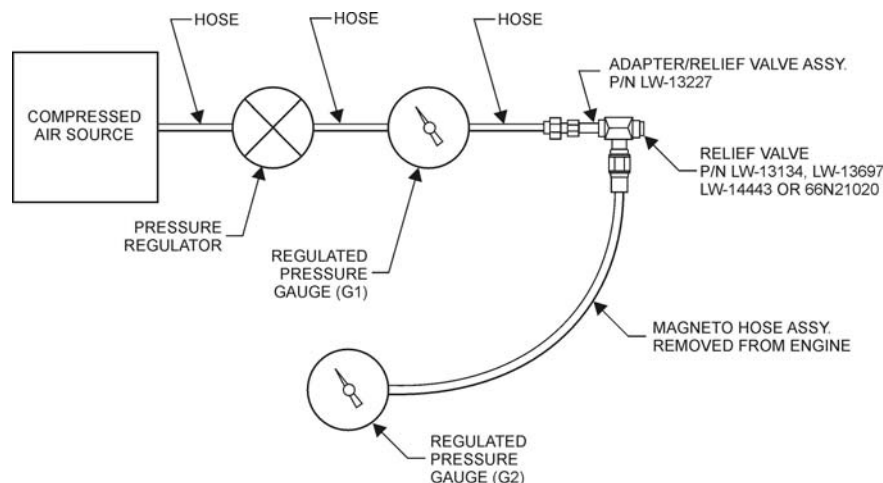

Figure 4. Alternate Connections for Relief Valve and System Check
The relief valve and system check can be performed with either the Model 11-10090 Air Flow Tester or with the setup shown in Figure 4. The parts needed for the setup in Figure 4 are one pressurized regulator and two regulated pressure gauges which will read from one (1) to ten (10) psi. The two gauges must be able to be read in $\frac{1}{4}$ psi increments.
Figure 4 Setup: Connect the compressed air source, the pressurized regulator, the two regulated pressure gauges, the magneto hose, the adapter P/N LW-13227 and relief valve as shown in Figure 4.